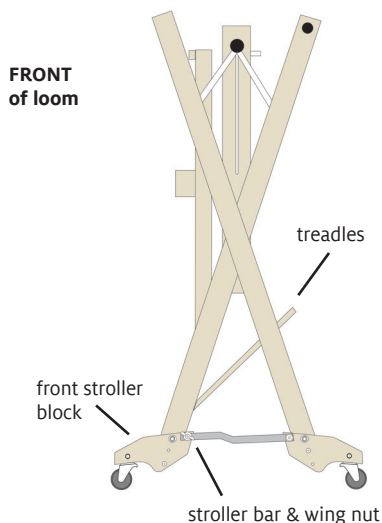

FIGURE 1: FOLDED
1. For transport: Fold the loom, making sure that the treadles come to rest above the rear leg brace. Tighten the fold knobs on all looms; secure the slide lock bars on Mighty Wolf and Baby Wolf looms. The loom now sits on the wheels of the stroller blocks. Remove the wing nuts on the bolts in the front stroller blocks. Place the slots in the stroller bars over these bolts, replace the wing nuts, and tighten (Figure 1).